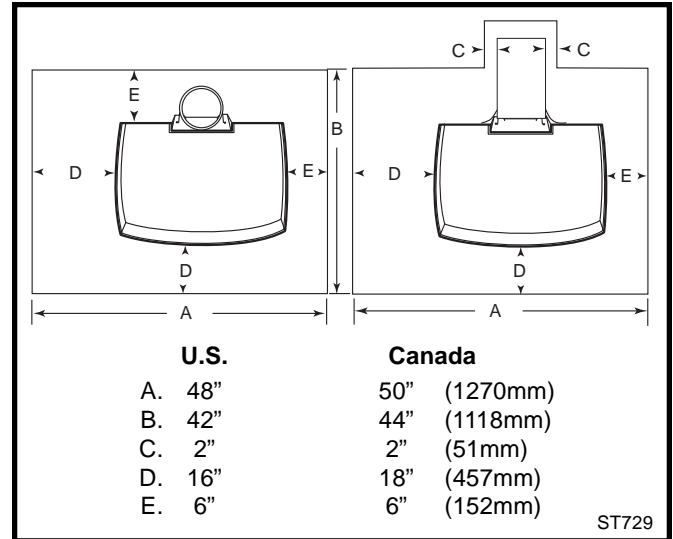

Fig. 12 Required floor protection dimensions.
U.S. Installations: The floor protector is required under the stove and must extend at least 16" from the front and left (loading door) side of the stove, and at least 6" from the right side and rear. (Fig. 12) It must also extend under the chimney connector and 2" to either side. Refer to Figure 12 for minimum noncombustible floor protection dimensions.
In Canada: a noncombustible floor protector is required under the heater also. The floor protector must extend 18" (457mm) from the front and left (loading door) side of the stove, and at least 6" (150mm) from the right side and rear. (Fig. 12) It must also extend under the chimney connector and 2" to either side. Refer to Figure 12 for minimum noncombustible floor protection dimensions.